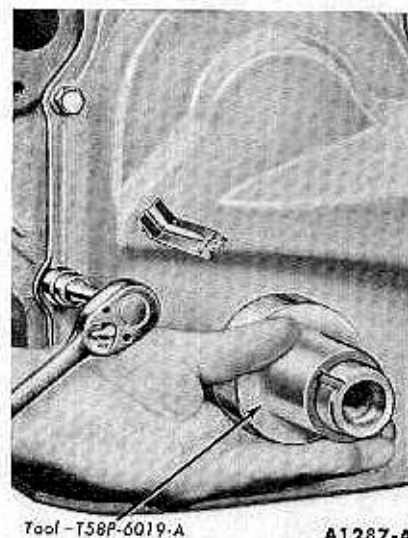

FIG. 46—Cylinder Front Cover Alignment
3. Install the alignment pilot tool on the cylinder front cover so that the keyway in the pilot aligns with the key in the crankshaft. Position the cover and pilot over the end of the crankshaft and against the block (Fig. 46).